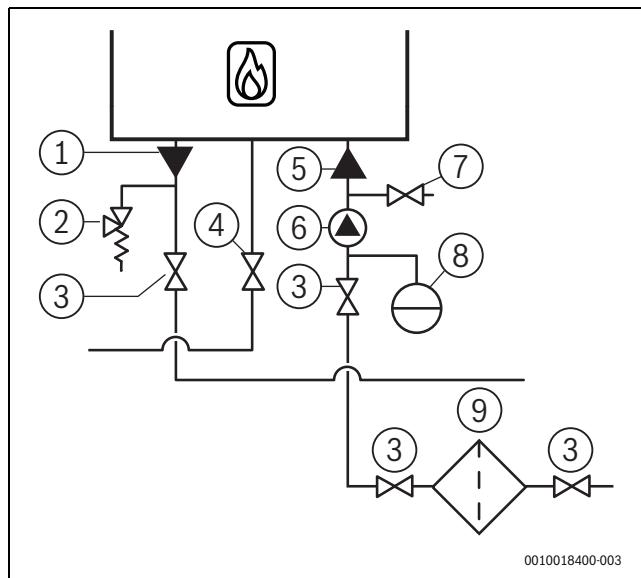

Fig. 18 Connection of heating water pipes
- ▶ Mount the connection for the expansion vessel and safety valve directly under the boiler and above the service valves. (→ Fig. 18, p. 17).
- ▶ Install a service valve in the flow and return pipe (→ Fig. 18, p. 17).